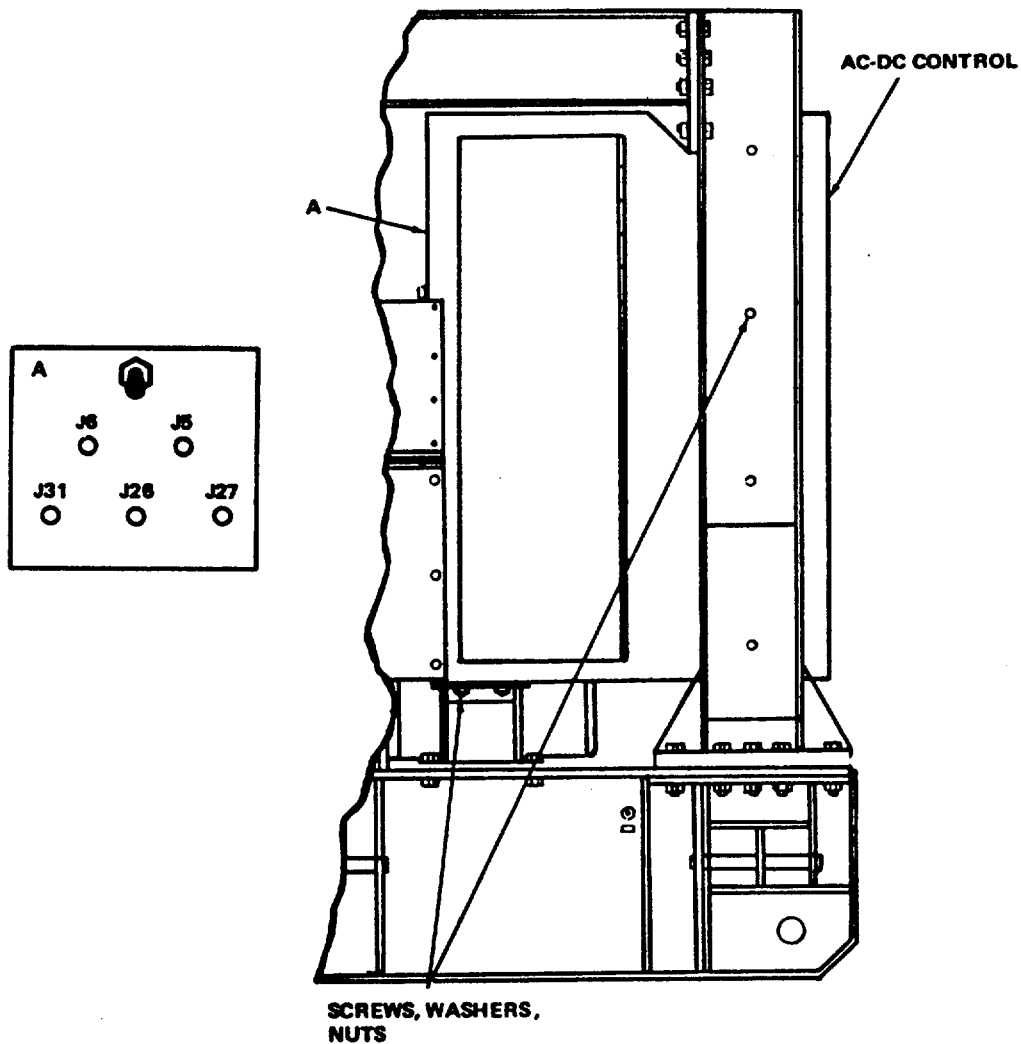

Figure 2-2. AC-DC Control Box Assembly, Removal and Installation
2-14. AC-DC CONTROL BOX ASSEMBLY. The AC-DC control box assembly, figure 2-2, is mounted on the left side of the control cubicle
- (1) Secure all generator set wiring and cables in vicinity of AC-DC control box assembly location.
- (2) Using a suitable hoist, locate unit on skid and attach to skid with screws, washers, and nuts (see figure 2-2)
- (3) Similarly, attach screws, washers, and nuts from unit to frame support upright.
- (4) Install control cubicle per paragraph 2-13 b.
- (5) Connect electrical connectors to J5, J6, J26, J27, and J31 on enclosure assembly. Connect terminals of shielded cable assembly, remove tags, and tighten adapter.
- (6) If generator set has a housing, replace left rear panel in accordance with Chapter 15.